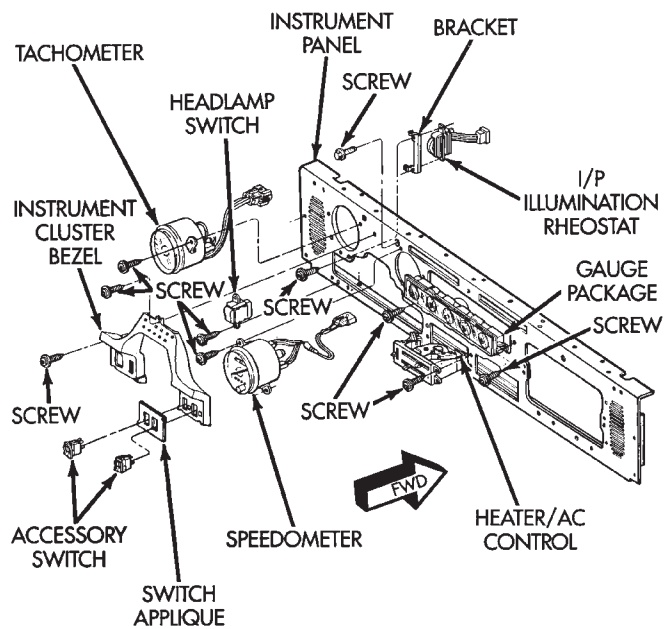

Fig. 6 Instrument Panel Components
- (5) Remove the bezel from the instrument panel (Fig. 6).